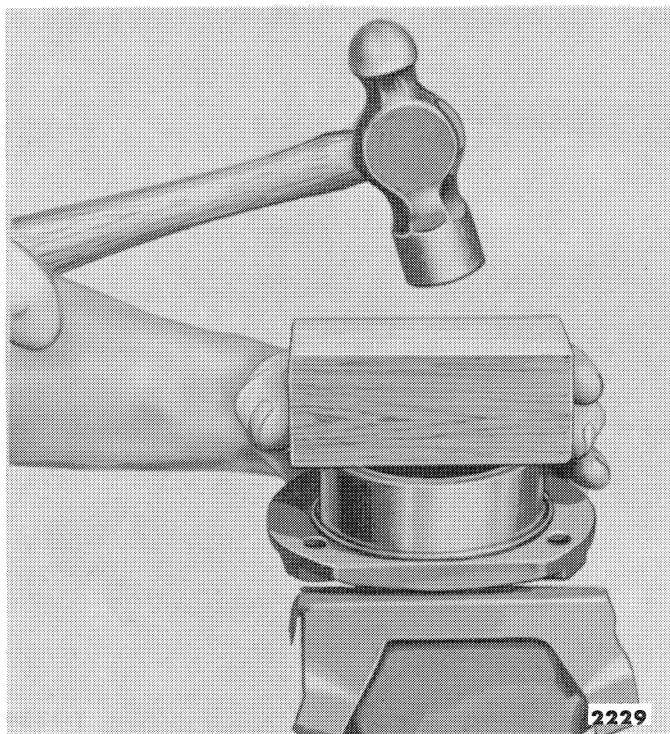

Figure 25—Installing Bearing Cup in Countershaft Front Bearing Retainer
3. Install the bearing cup in the retainer with Step Plate 630-15 or a wood block and hammer, Figure 25.